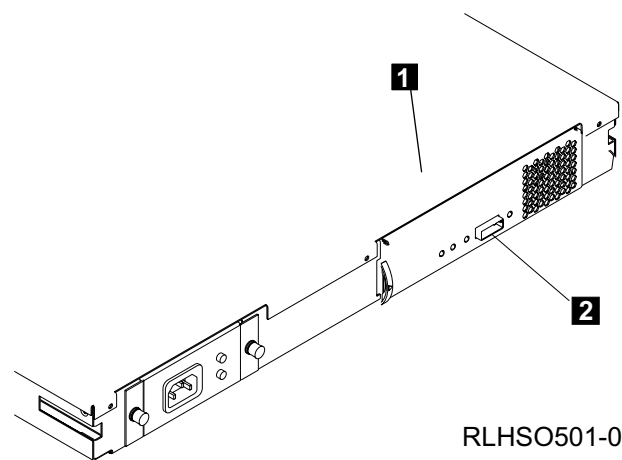

Figure 12. Connecting the SAS Cable to the 7214 Storage Enclosure
1. On the rear of the 7214 Storage Enclosure ( **1** in Figure 12), insert the device connector end of the SAS cable into the cable connector **2**.